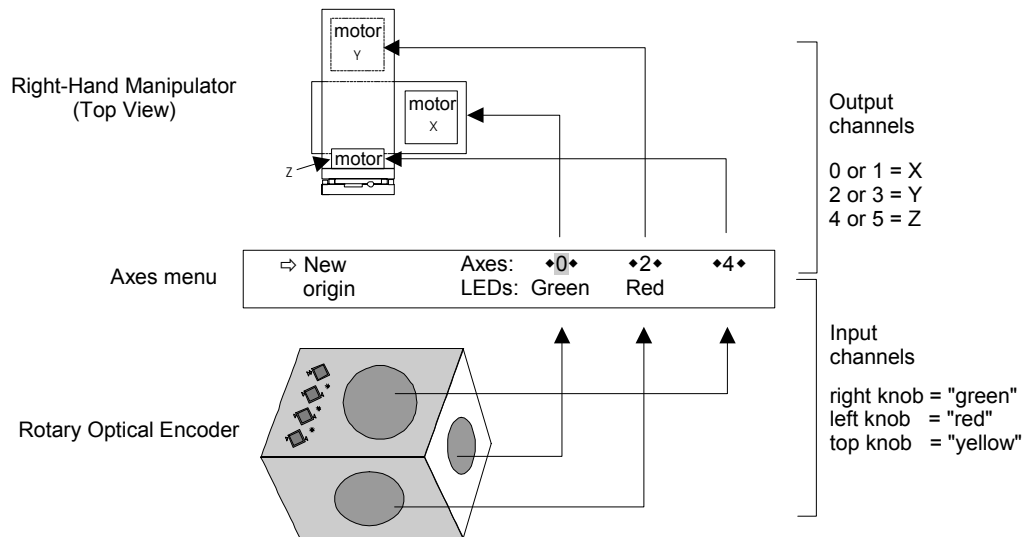
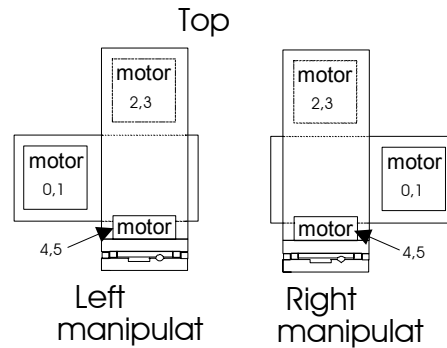

Figure 7. Axis assignment map.
Figure 8. Values assigned to each motor.
- The numbers (0...5) used in the axes menu refer to an MP-285 output channel and its polarity (direction of movement). Each pair of these channels is hard-wired to a motor: 0 and 1 = the X motor, 2 and 3 = the Y motor, and 4 and 5 = the Z motor (see Figure 8). It is important to remember that these relationships never change.
- To assign a specific motor to an input device axis, enter one of the two numbers corresponding to that motor (see Figure 7 and Figure 8) to the input device control being edited in the Axes menu.